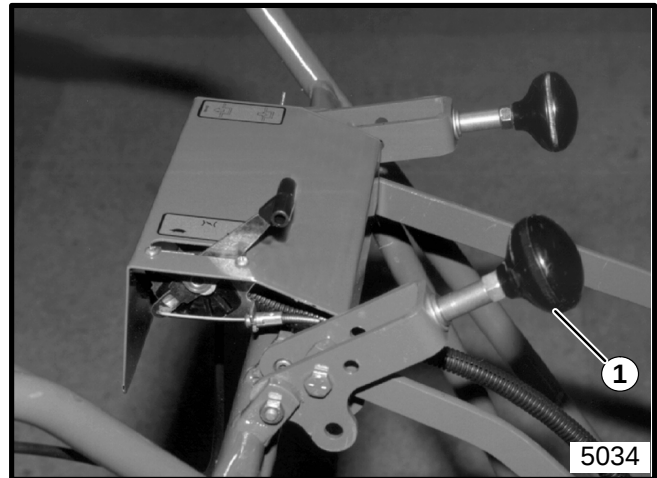

FIGURE 5
1. Attach metering wheel control lever to right side of handle. Secure to handle using two (2) 1/4-20 x 5/8" cap screws and locknuts. See Figure 5. Attach adjuster links (Part Nos. 521804 and 518245) to metering wheel.